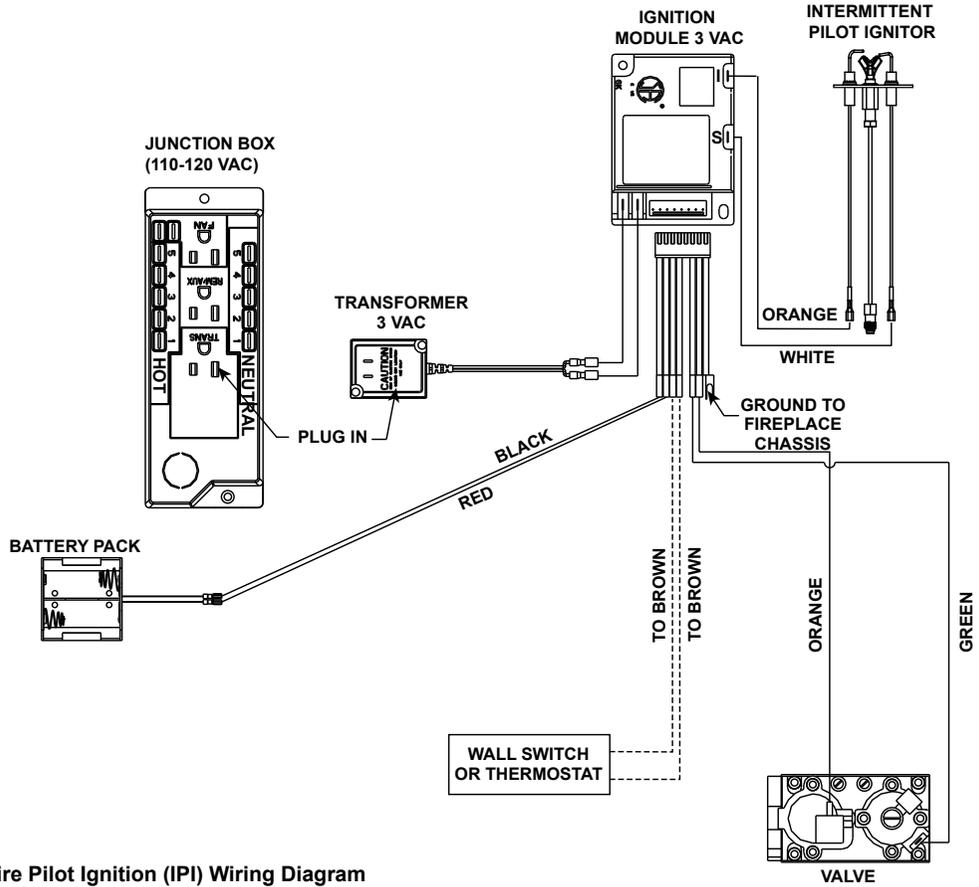

Figure 8.3 Intellifire Pilot Ignition (PI) Wiring Diagram
- Refer to Figure 8.3 or 8.4, Intellifire Pilot Ignition (IPI) Wiring Diagram.